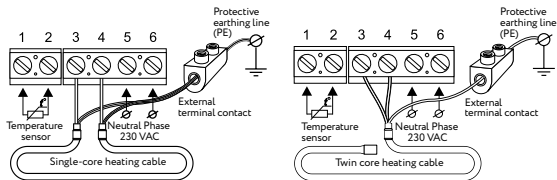

Fig. 3
The leads of the heating section or mat are connected terminals **3** and **4**; the shielding braid lead (yellow-green) is connected to the protective earth (PE) line via external terminal contact (Fig. 3).